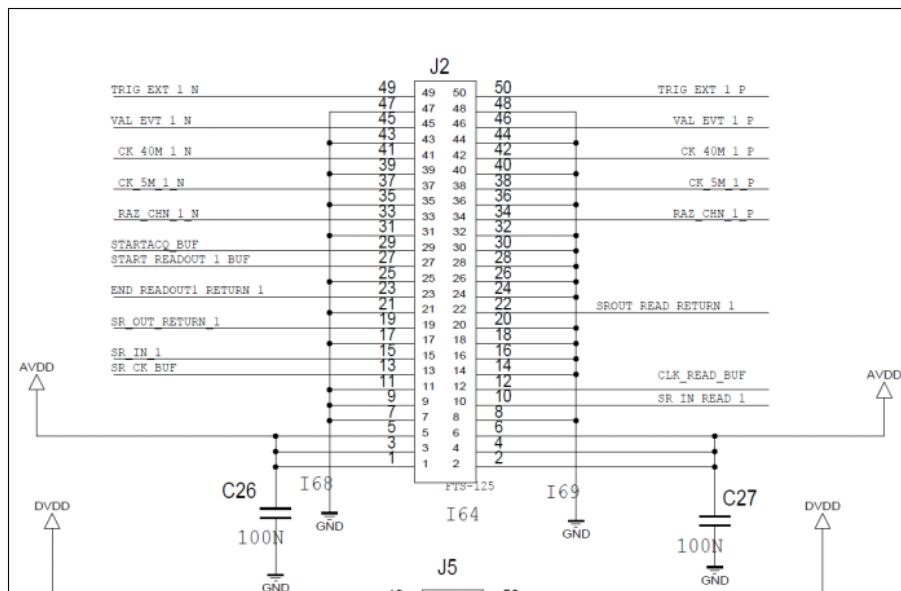

Figure 1.17: J2 connector pin-out
2. Then take a 50 pins flat cable (that you are then going to connect to the J2 connector). Cut in the middle the wires number 13, 49 and 50 (SR_CK_BUF, TRIG_EXT_N and TRIG_EXT_P respectively). Refer to Figure 1.17 for the flat cable pin-out. Strip the "ASU end" of these wires. By ASU end I mean the end that is not to be connected to the interface but to the ASU. If needed do the same for the other flat cables coming out the connectors J6, J8 and J10.